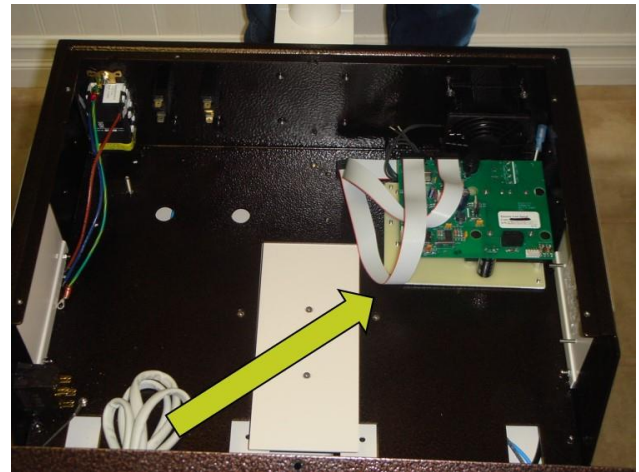

Fig. 8
16. Once you have removed any board plates, set aside in an available area inside delivery system that is clear from the center access panel. (Fig. 8)